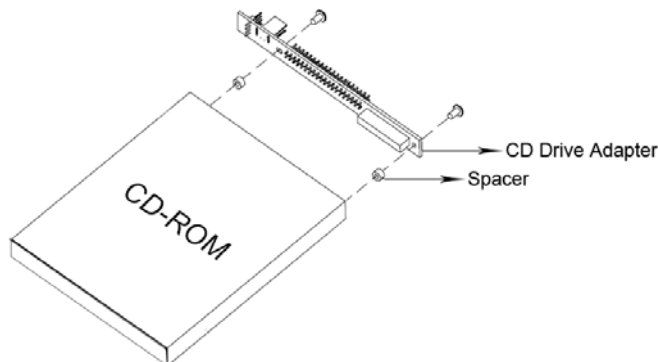

Figure 3-17: CD Drive Adapter Installation
Step 1: Attach the CD drive adapter to the CD drive by aligning the two retention screw holes in the CD drive adapter with the retention screw holes on the rear side of the CD drive. Place the two spacers between the CD drive and CD drive adapter. Insert two retention screws into the adapter (**Figure 3-17**).